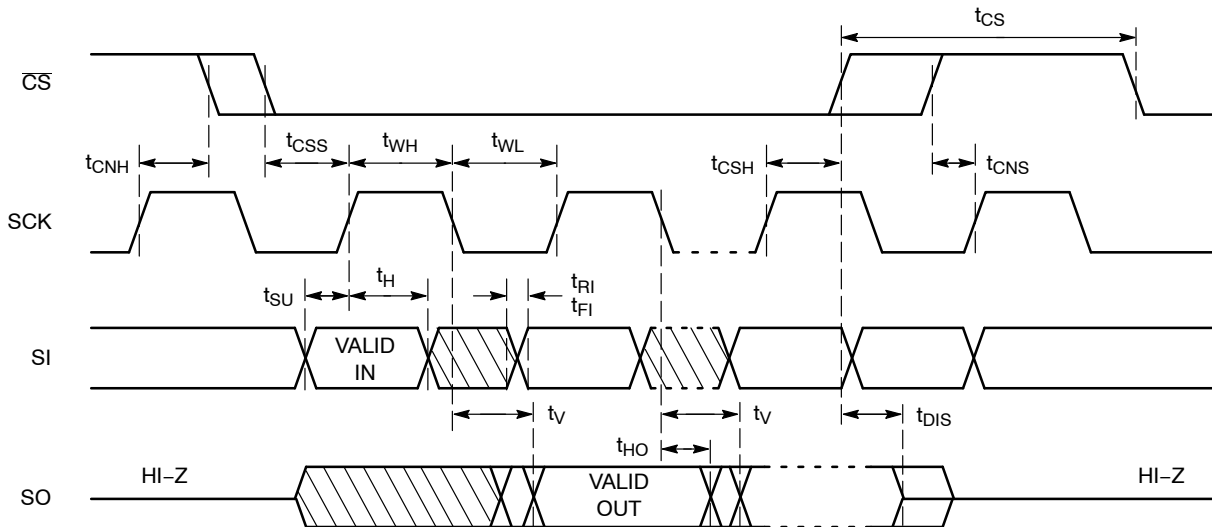

Figure 2. Synchronous Data Timing
8. t_{WC} is the time from the rising edge of CS after a valid write sequence to the end of the internal write cycle.9. All Chip Select (CS) timing parameters are defined relative to the positive clock edge (Figure 2). t_{CSH} timing specification is valid for die revision C and higher. The die revision C is identified by letter “C” or a dedicated marking code on top of the package. For previous product revision (Rev. B) the t_{CSH} is defined relative to the negative clock edge.**Table 7. POWER-UP TIMING** (Notes 7, 10)
After a high to low transition on the $\overline{\text{CS}}$ input pin, the CAT25256 will accept any one of the six instruction op-codes listed in Table 10 and will ignore all other possible 8-bit combinations. The communication protocol follows the timing from Figure 2.